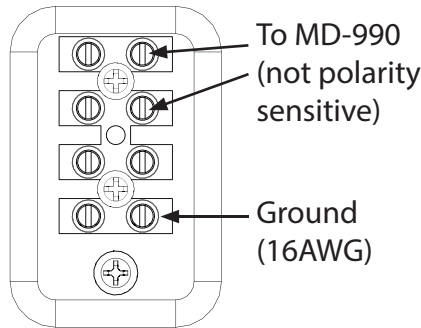

Figure 11: Power supply and ground terminals on the 22" Touch Screen
3. Attach one end of the supplied 16 gauge cable to the ground post shown in Figures 11 and 12 and connect the other end to the site ground.
6. Connect the MD-990 load power supply wires to the Touch Screen terminal screws as shown in Figures 11, 12 and 13.